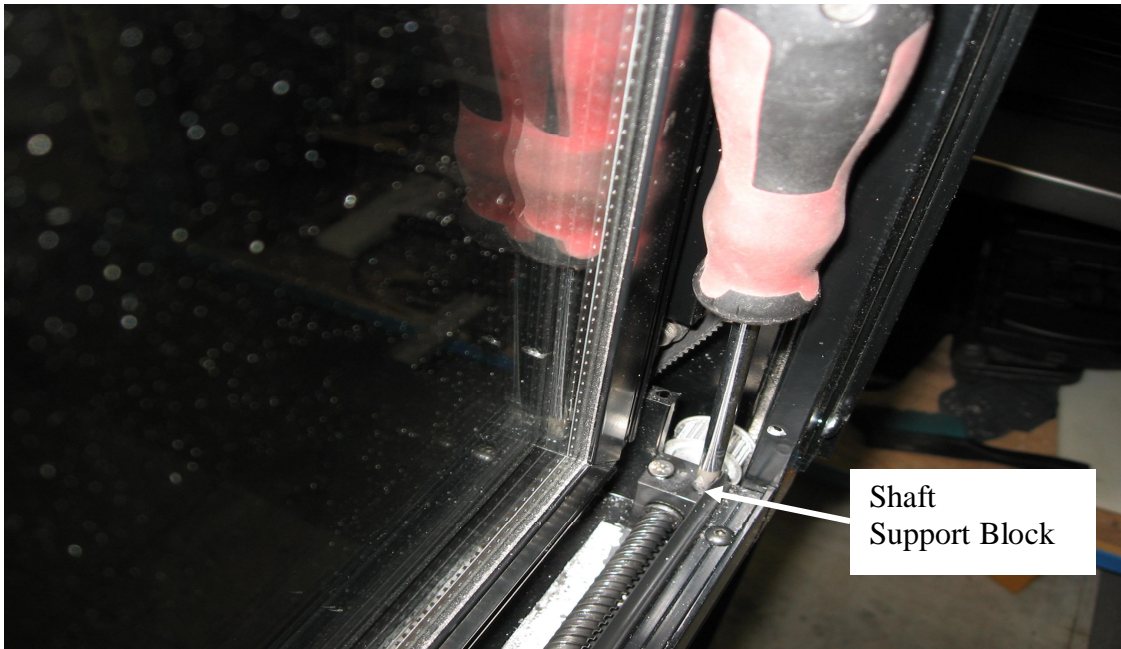

Figure 8
- 4) Remove the shaft support block and take note of its orientation. The shaft support block is not symmetrical. It must not be reversed when reinstalled or it will cause the shaft to bind (Figure 8)